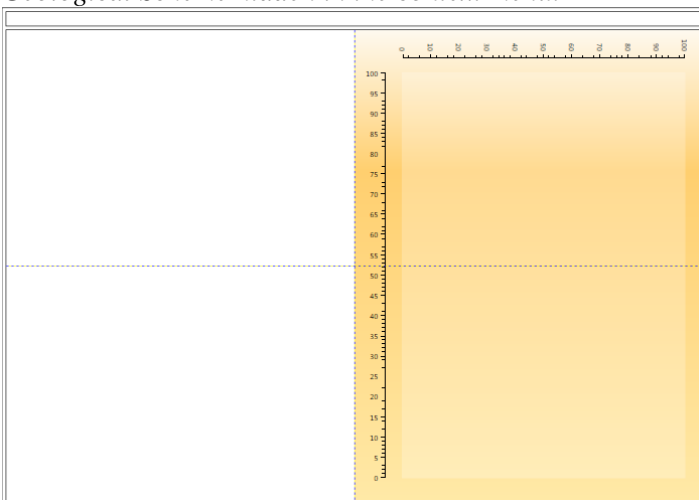

Fig. 219: Object position set-up in the Body area cell structure.
Using these functions, you can set-up all the following for correct 2D Section display; (1) the **Refresh** function is used to redraw the whole 2D Section, (2) the **Delete** item deletes your object from the plot, (3) the **Row / Column** and **Row / Column Span** functions define the object’s location in the cell structure, as depicted in Figure 219. Here the object is moved to the second column and stretched across two rows, (4) several menu items following this are used for 2D Section definition related to the well data you want rendered, and (5) all the remaining functions from **Size** to the end serve for graphical adjustment of your entire object. These adjust the **size** of your section, the **background colour**, the **offset** from the edges, the **horizontal** and **vertical alignment**, the **colour** and **thickness** of the **border line** and the **interval** for **axes label** display.